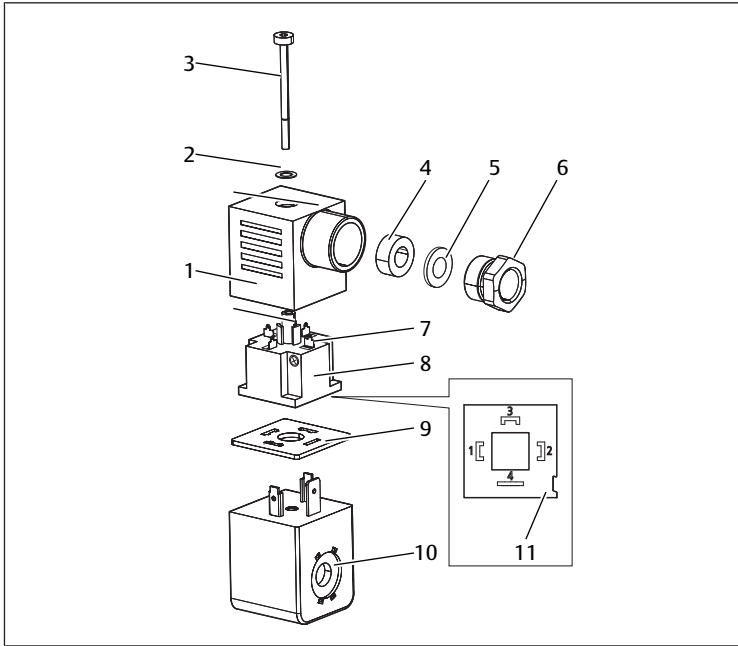

Fig. 2: Product overview
1. Loosen the center screw (see → Fig. 2: 3) on the electrical connector (1) and remove the electrical connector from the solenoid coil (10).
2. Carefully remove the center screw (3) and seal (2) without damaging the seal (9).